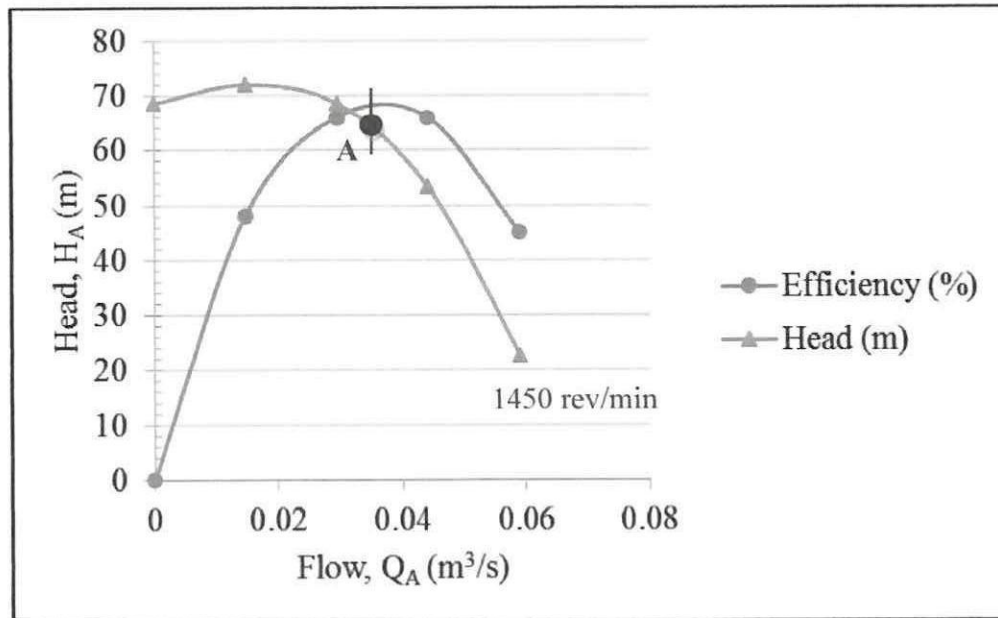

Figure Q2(e) The graph plot of Head, H_A versus Flow, Q_A
- Q1** (a) With the aid of a diagram, categorize **THREE (3)** types of water distribution system. (6 marks)
- (b) (i) List **THREE (3)** types of pipe in domestic water supply system. (3 marks)
- (c) State **TWO (2)** sections in FG Filter Separator. (4 marks)
- Q2** (a) Identify **TWO (2)** types of Centrifugal pump. (2 marks)
- (b) State **THREE (3)** types Centrifugal pump are available based on the suction and discharge arrangement. (3 marks)
- (d) With the aid of a sketch, classify **THREE (3)** major parts of a Centrifugal pump with their functions. (6 marks)
- (e) A Centrifugal pump is required to produce a flow of water at a rate of $0.0180 \text{ m}^3/\text{s}$ against a total head of 30.5 m. Given the operating characteristic of a pump at a speed of 1450 rev/min and a rotor diameter of 150 mm as plotted in **Figure Q2(e)** which assume the speed for a geometrically similar pump at the required conditions.
- Q3** (a) Identify **TWO (2)** types of Hot Water Service System. (2 marks)
- (b) Briefly explain on **TWO (2)** types of material used for sanitary components. (6 marks)
- (c) Compare between Soil Fitment and Ablution Fitment by giving **ONE (1)** example for each. (4 marks)
- (d) All sanitary fitments discharging into a system of drainage must be fitted with a water seal device or trap, to prevent and stops sewer gases from coming into the building. Give **ONE (1)** example and discuss how water seal can be destroyed. (5 marks)